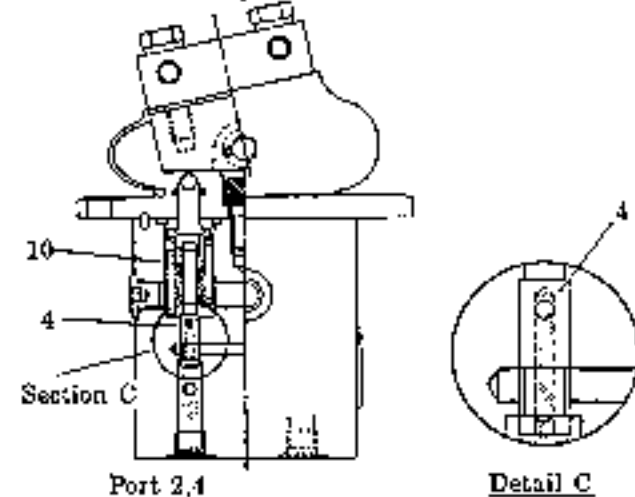

Fig. 5 Lever held
### (3) Lever held (See Fig. 5)